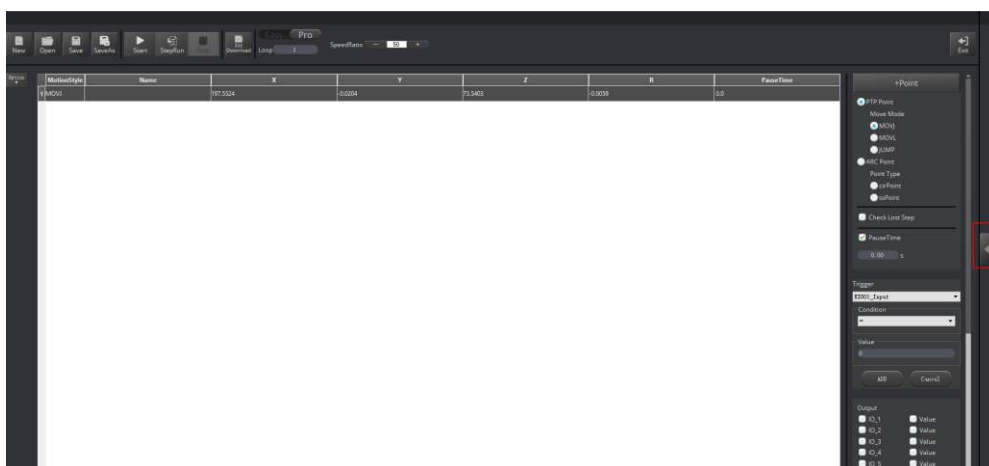

Figure 5.24 Display the Operation Panel
3. Click  to display the **Operation Panel**, as shown in Figure 5.24.